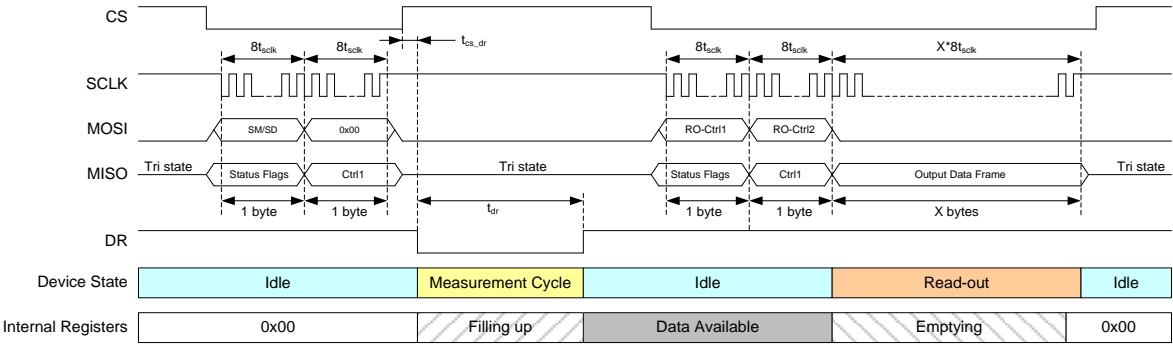

Figure 13 : Separated SM - RO (X value is defined in Figure 6)
- Figure 13 : Separated SM - RO (X value is defined in Figure 6) shows the operation with separate SM and RO commands. After upload of a SM command, the measurement cycle will start and the internal registers will be filled. Once the *DR* pin is high, the RO command can be uploaded to start the read-out cycle. All data of the internal registers will be transferred and at the end of the read-out the registers will be cleared.